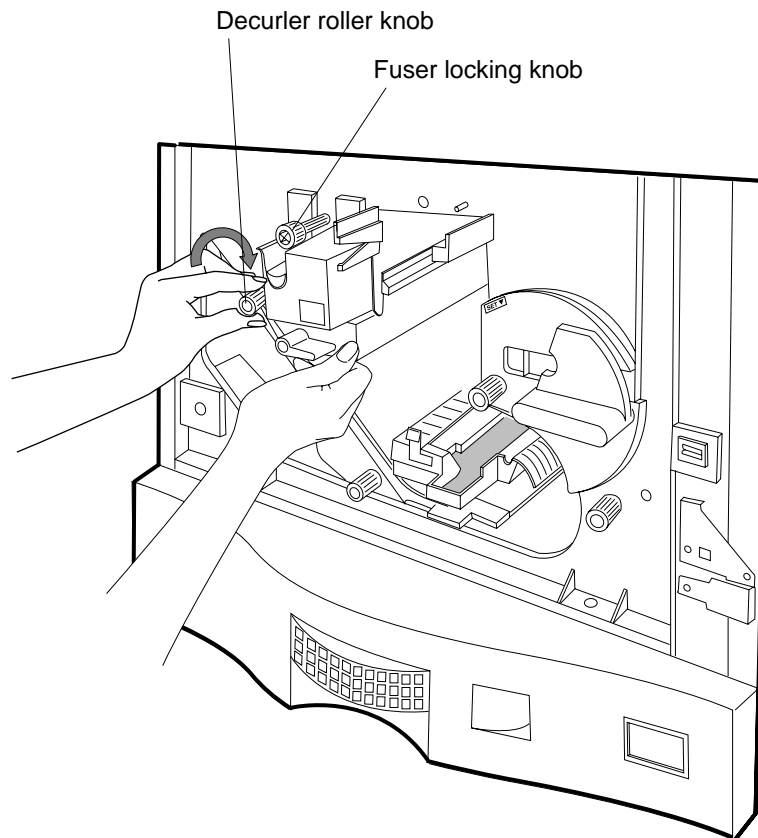

Figure 4-37 Fuser Locking Knob and Decurler Roller Knob
3. Maintain pressure on the fuser and finger-tighten the fuser locking knob clockwise to engage the frame and secure the fuser into position as shown in Figure 4-37.
If the fuser does not seat properly, do not force it. Instead, refer to Figure 4-37 while following the next two steps: